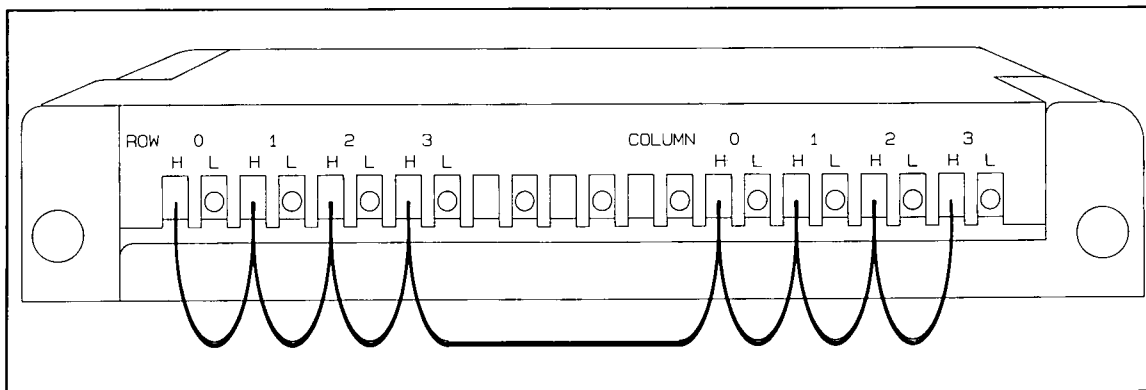

Figure 11-6 Row Or Column High To Low Test Wiring #1
13. Configure a 44483A wiring block so that the high lines of all the rows and columns are shorted together as shown in Figure 11-6.